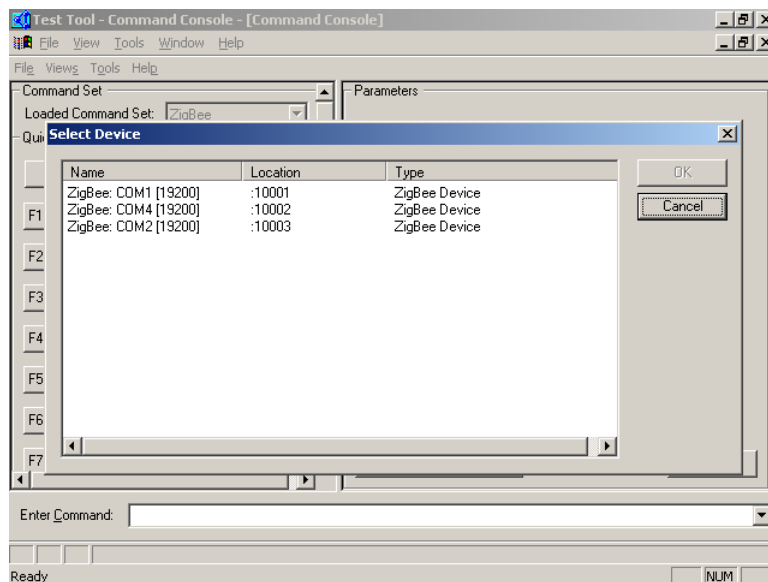

Figure 16 Test Tool Window (Command Console Device Select)
2. As shown in Figure 16, select the device you want to use, and click on the "OK" button.